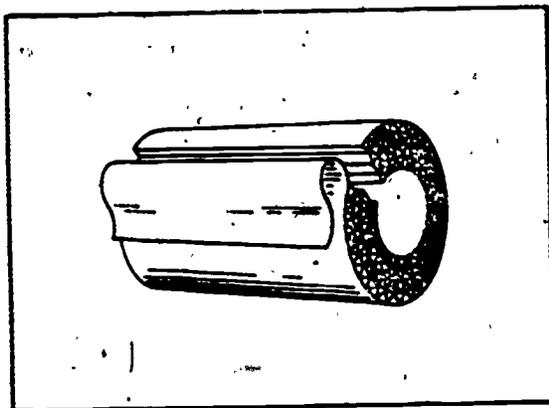

Figure 4-1. Air cell insulation.
a. **Air cell.** Air cell pipe covering is made of fine quality asbestos paper. The covering is generally used to cover low-pressure steam and vapor lines. Air cell insulation is formed by layers of plain asbestos felt that is alternated with corrugated asbestos felt, with each lamination or ply approximately 1/4 inch thick. Air-cell insulation is furnished in 3-foot lengths, unless otherwise specified, and is covered with a canvas jacket, as shown in figure 4-1.